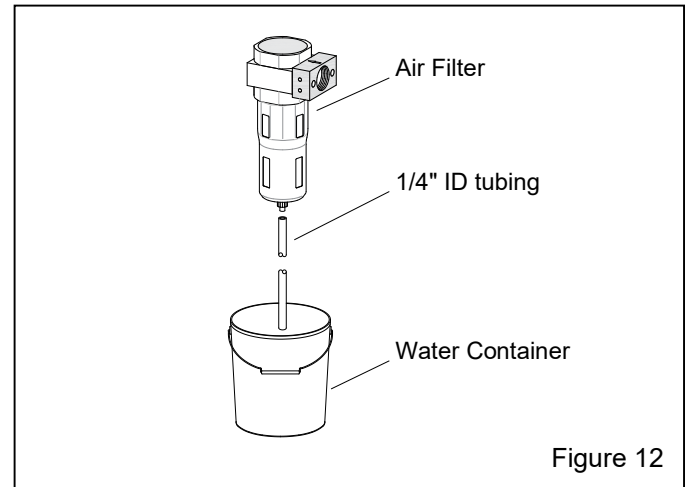

Figure 12
2.9.3 Insert a section of 1/4" ID tubing onto into the automatic-drain stem at the bottom of the compressed-air filter, as shown in Figure 12, and place the other end into a pail or other suitable water container. When the filter automatically drains, the water drains into the container.